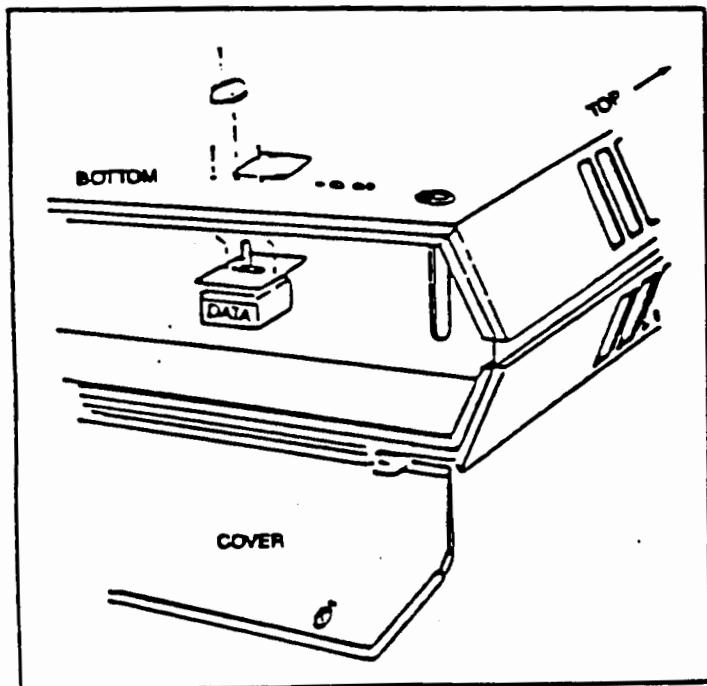

FIGURE 3 - Switch Location on 7-20 KW Unit
#### DISCONNECT SWITCH KITS WITHOUT TERMINAL SHIELD. REFER TO FIGURES 3 and 4.
7. Attach the "ON-OFF" decal located per Figure 3. Peel off the backing paper, position carefully then press firmly onto the heater cabinet. Note that knob rotation clockwise is "ON" and counterclockwise is "OFF."